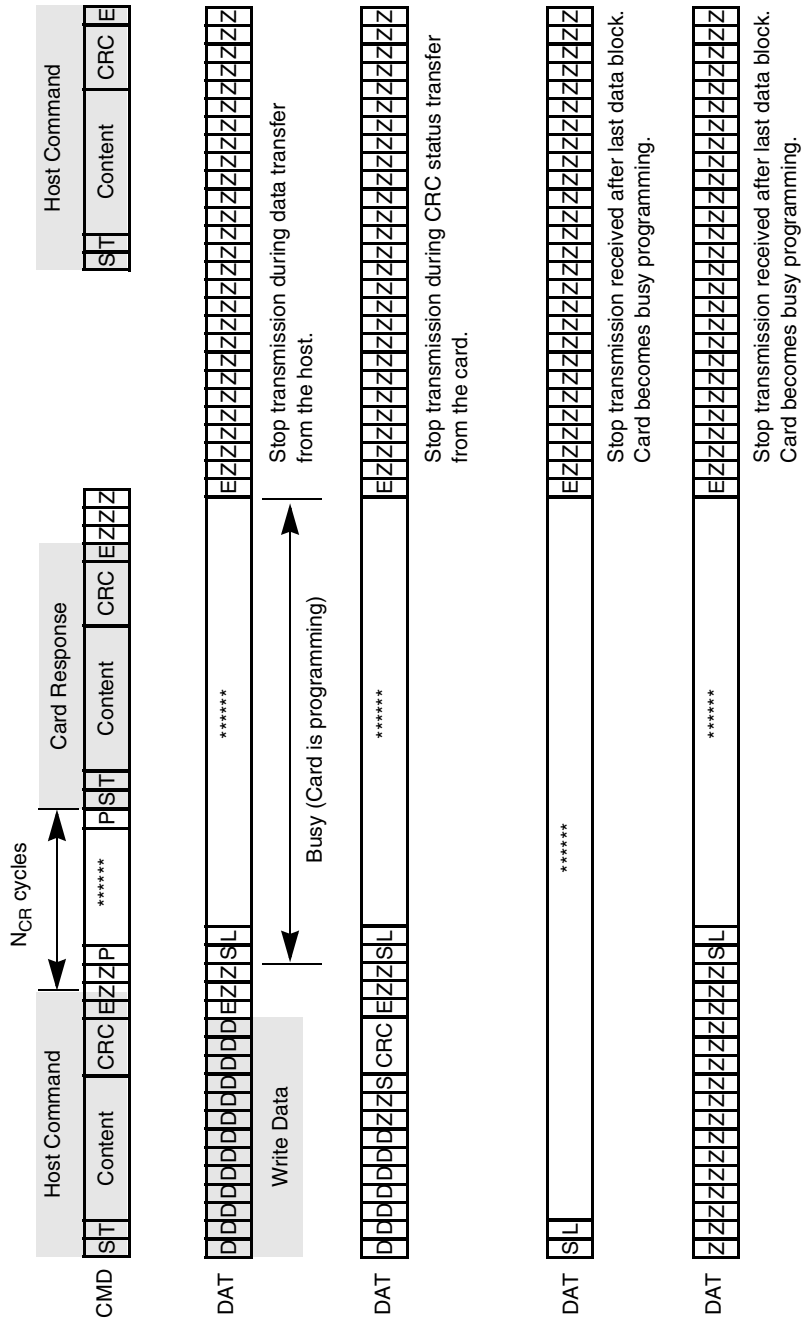

Figure 47. Stop Transmission During Different Scenarios
The card identification and card operation conditions timing are processed in open-drain mode. The card response to the host command starts after exactly  $N_{ID}$  clock cycles. For the card address assignment, SET\_RCA is also processed in the open-drain mode. The minimum delay between the host command and card response is NCR clock cycles as illustrated in Figure 43. The symbols for Figure 43 through Figure 47 are defined in Table 23.
Table 23. State Signal Parameters for Figure 43 through Figure 47
The stop transmission command may occur when the card is in different states. Figure 47 shows the different scenarios on the bus.
Table 24. Timing Values for Figure 43 through Figure 47
**Table 24. Timing Values for Figure 43 through Figure 47 (Continued)**